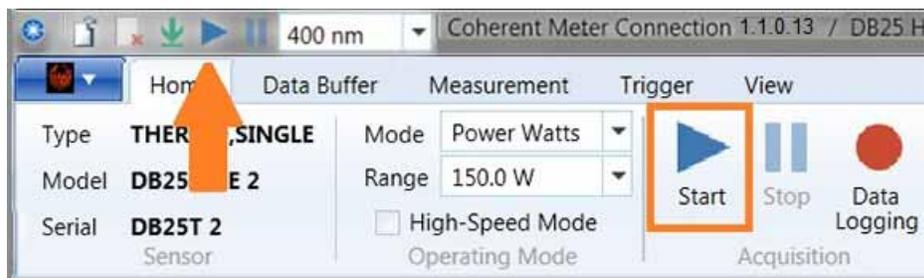

Figure 6-9. Stop Data Collection
- b.) To end data collection, click the **Stop** icon in the toolbar or the Home tab, shown in Figure 6-9.